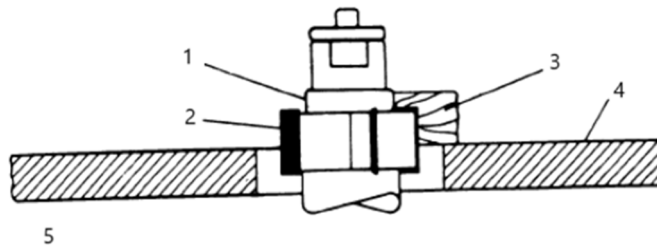

Figure 6
5. Under no circumstances should a small workpiece be shaped against the collars as shown in figure 6.